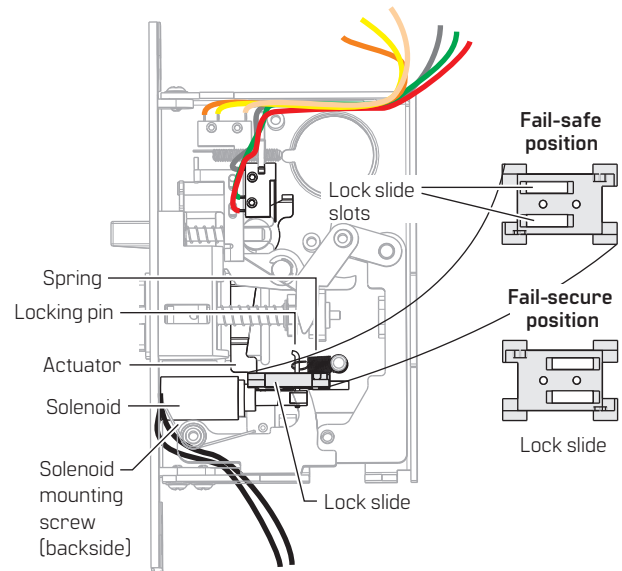

Figure 6 Converting fail-safe/fail-secure (LSEM303 shown)
- 5.1 Remove solenoid mounting screw (located on back side of view in Figure 6).
- 5.4 Disconnect spring and remove lock slide and solenoid (see Figure 6).
- 5.9 Check operation according to Figure 6 before reinstalling case cover with three case cover screws from step 5.1.
**NOTE: Ensure actuator is engaged in lock slide notch (see Figure 6).**